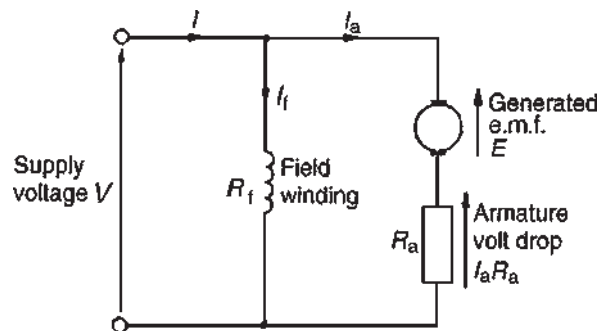

Figure 22.16
In the shunt-wound motor the field winding is in parallel with the armature across the supply as shown in Fig. 22.16.
For the circuit shown in Fig. 22.16,
- (ii) The armature circuit of a d.c. motor has resistance due to the armature winding and brushes, R_a ohms, and when armature current I_a is flowing through it, there is a voltage drop of $I_a R_a$ volts. In Fig. 22.16 the armature resistance is shown as a separate resistor in the armature circuit to help understanding. Also, even though the machine is a motor, because conductors are rotating in a magnetic field, a voltage, $E \propto \Phi \omega$, is generated by the armature conductors. From equation (5), $V = E + I_a R_a$ or $E = V - I_a R_a$. However, from Section 22.5, $E \propto \Phi n$, hence $n \propto E / \Phi$ i.e.